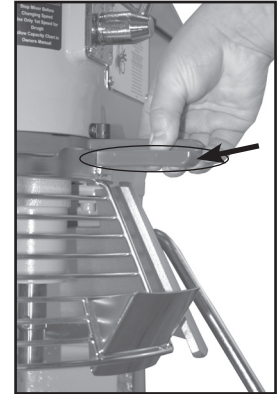

fig. 8-1
1. To remove the bowl guard for cleaning, push the lower part of the separated handle out (clockwise) dividing the handle and releasing the guard from the rotation ring. (see fig. 8-1)